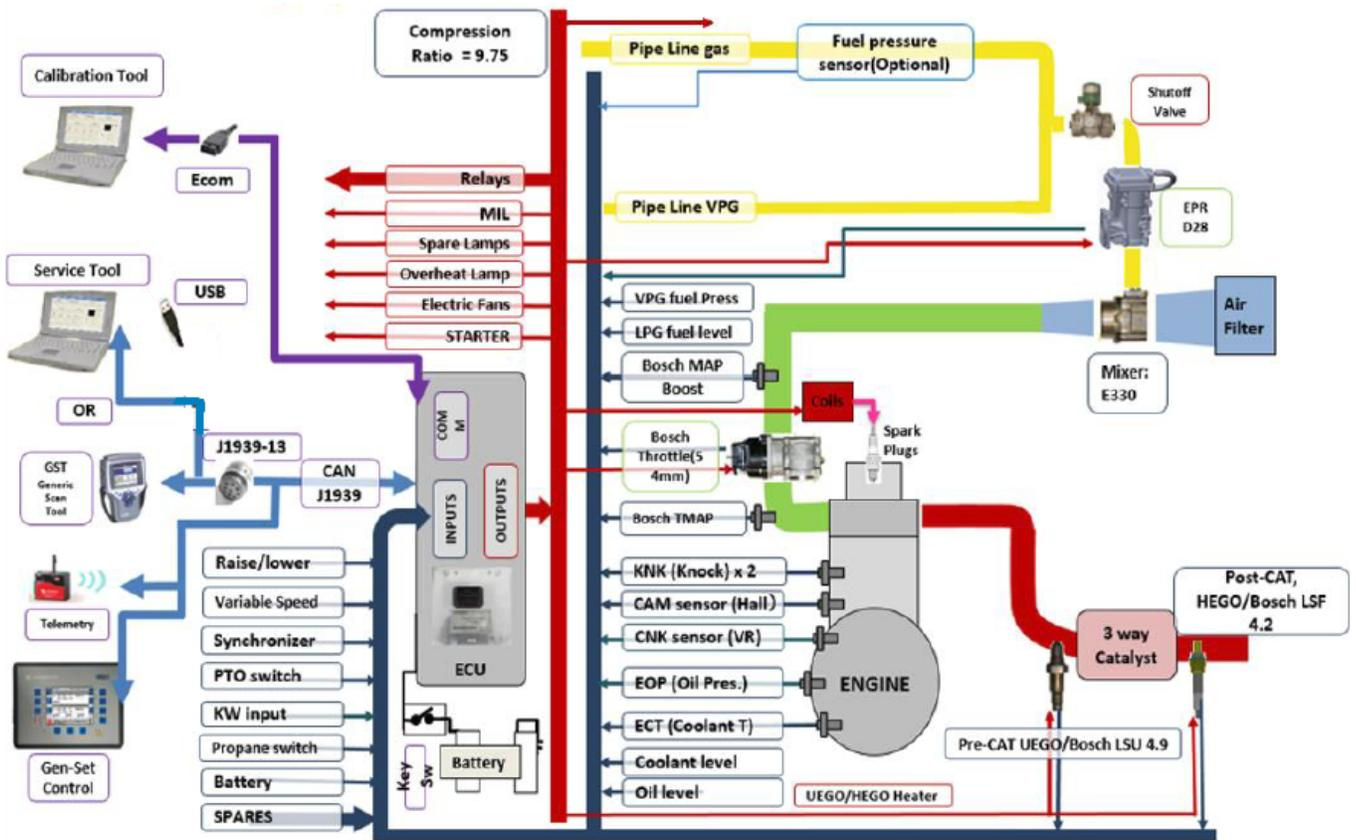

Figure 1A. 4.5L Schematic
The 4G engine control module is the backbone of the EControls control system. Proven in a multitude of applications around the world, the 4G based engine control system delivers reliable operation and optimal engine operation no matter the environment. The 4G engine control system is essential for highly regulated emissions, it enables operation at the stoichiometric air / fuel ratio with Rich Burn and a 3 Way Catalyst. Stoichiometric engine operation ensures that there is the precise amount of air delivered to completely burn all the fuel. The stoichiometric Air Fuel Ratio (AFR) for natural gas is 17.2:1 and for propane is 15.5:1. With rich burn there is slightly less air delivered relative to fuel resulting in slightly less fuel efficiency, more power and a cooler combustion process. Figure 1A-1E shows the required 4G engine control system configurations for Propane (LPG), Natural Gas (NG) and Bi-Fuel (LPG and NG) for the 4.5L-13L turbo engines.